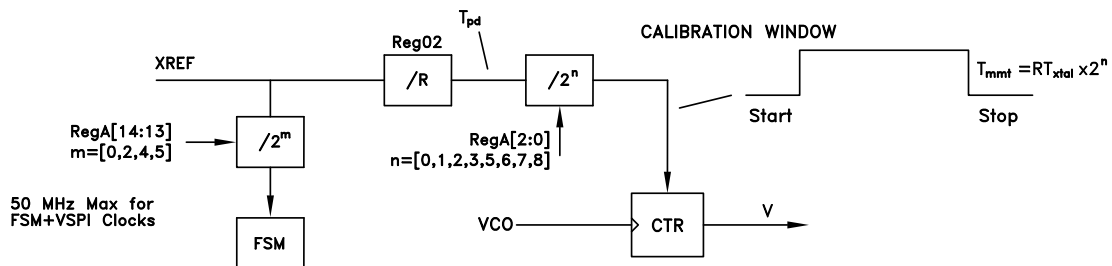
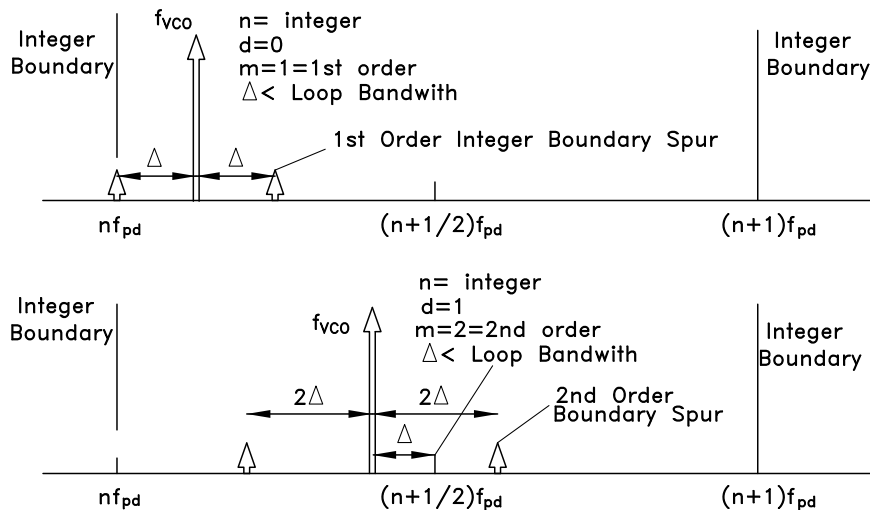
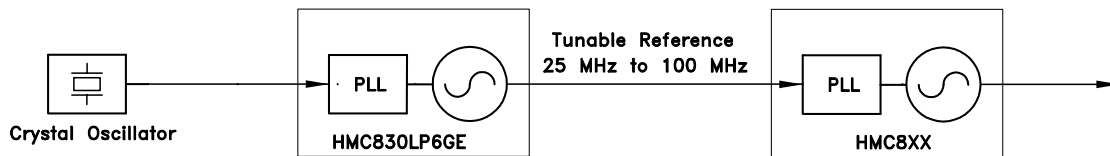

Figure 35. VCO Calibration
Figure 36. Fractional Spurious Example
Figure 37. Tunable reference source
For example, Figure 35 shows the spectrum of a carrier operating at 2000.1 MHz with a 50 MHz fixed reference. This case is 100 kHz away from an Integer Boundary (50 MHz x 40). Worst case spurious can be observed at 100 kHz offset and about -52 dBc in magnitude.
Figure 36 shows the same HMC833LP6GE PLL VCO operating at the same 2000.1 MHz carrier frequency, using a tunable reference at 47.5 MHz generated by HMC830LP6GE. Worst case spurious in this case can be observed at 5 MHz offset and about -100 dBc in magnitude.
The results of Figure 35 and Figure 36 show that the tunable reference source achieves 50 dB better spurious performance, while maintaining essentially the same phase noise performance.
Many spurious measurements, such as the ones in Figure 35 and Figure 36 can be summarized into a single plot of worst case spurious at any offset vs. carrier frequency as shown in Figure 37. A log frequency display relative to the 2000 MHz fixed reference Integer Boundary was used to emphasize the importance of the loop bandwidth on spurious performance of the fixed reference case. This technique clearly shows the logarithmic roll-off of the worst case spurious when operating near the Integer Boundary. In this case the loop filter bandwidth of the HMC833LP6GE was 100 kHz.
For example worst case spurious operating at 2000.1 MHz (point (A)) in Figure 35 with a fixed 50 MHz reference) is represented by a single point in Figure 37 (point (A)) on the blue curve. Similarly, worst case spurious from Figure 36 with variable reference, operating at 2000.1 MHz is represented by a single point in Figure 37 (point (B)) on the green curve.
The plot in Figure 37 is generated by tuning the carrier frequency away from Integer Boundary and recording the worst case spurious, at any offset, at each operating frequency. Figure 37 shows that the worst case spurious for the 50 MHz fixed reference case, is nearly constant between -51 dBc and -55 dBc when operating with a carrier frequency less than 100 kHz from the Integer Boundary (blue curve). It also shows that the worst case spurious rolls off at about 25 dB/decade relative to 1 loop bandwidth. For example, at an operating frequency of 2001 MHz (equivalent to 10 loop bandwidths offset) worst case spurious is -80 dBc. Similarly, at an operating frequency of 2010 MHz (equivalent to 100 loop bandwidths) worst case spurious is -100 dBc.
In contrast, the green curve of Figure 37 shows that the worst case spurious over the same operating frequency range, when using an HMC830LP6GE tunable reference, is below -100 dBc at all operating frequencies!